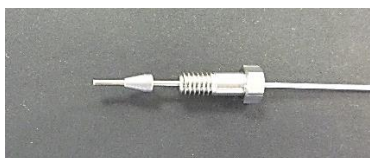

Figure 23. Assembly of 1/32" OD tubing with stainless steel nut and ferrule for 1/32" receiving ports
- Slide the smaller 1/32" OD nut and ferrule over the tubing (Figure 23).
- Slide the nut and a ferrule in the correct direction onto the tube end (as in Figure 23).